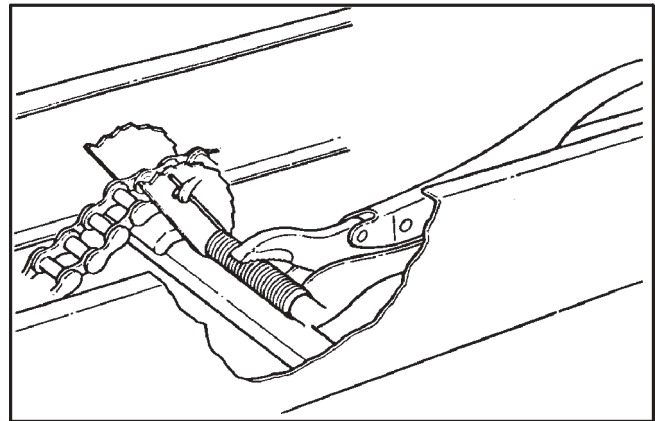

Figure 7-6. Securing tensioner cam
3. Turn the tensioner cam assembly in the direction which winds up the torsion spring and push the assembly down as close as possible to the cam follower block in the bottom of the frame. Secure it in this position with a Vice-Grip 10CR as illustrated in Figure 7-6.
2. Turn the tensioner cam assembly in the direction which winds up the torsion spring and push the assembly down as close as possible to the cam follower block across the bottom of the frame channels. Clamp it in this position with a Vice-Grip 10CR or similar plier as illustrated in Figure 7-6.